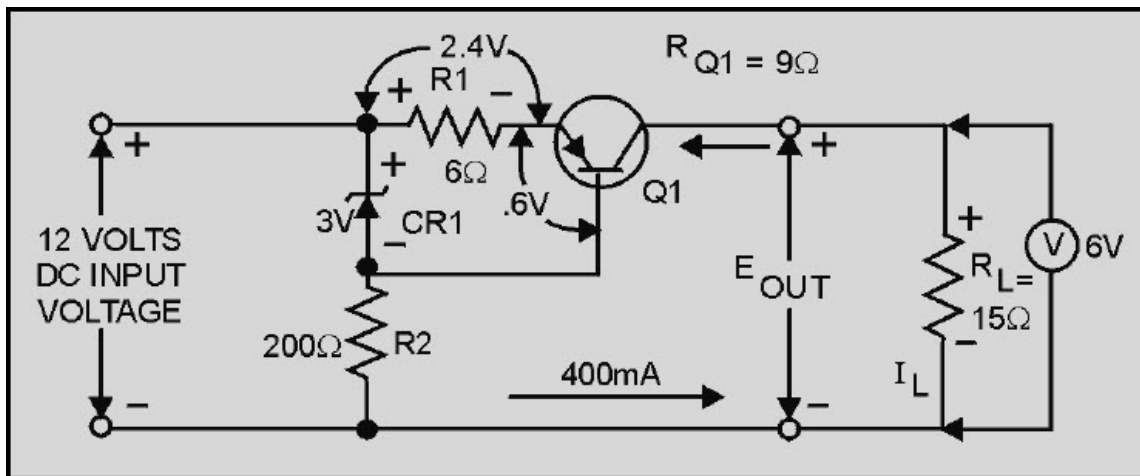

Figure 4-42 Current regulator (with circuit values)
The purpose of a current regulator is to provide a constant current regardless of changes in the input voltage or load current. The schematic shown in figure 4-42 is that of a circuit designed to provide a constant current of 400 milliamperes. Voltmeters are shown in the schematic to emphasize the voltage drops across specific components. These voltages will help you understand how the current regulator operates. The voltage drop across the base-emitter junction of Q1 is 0.6 volt. This voltage is the difference between the Zener voltage and the voltage drop across R1. The 0.6-volt forward bias of Q1 permits proper operation of the transistor. The output voltage across RL is 6 volts as shown by the voltmeter. With a regulated current output of 400 milliamperes, the transistor resistance (RQ1) is 9 ohms. This can be proved by using Ohm's law and the values shown on the schematic. In this case, current (I) is equal to the voltage drop (E) divided by the resistance (R). Therefore: 12 volts divided by 30 ohms equals 0.4 ampere, or 400 milliamperes.